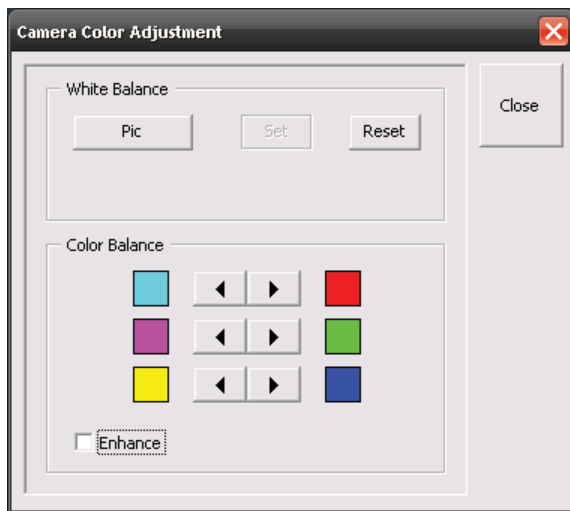

Fig. 4-145 Camera Color Adjustment window
- The **Camera Color Adjustment** window appears on the screen (see Fig. 4-145).